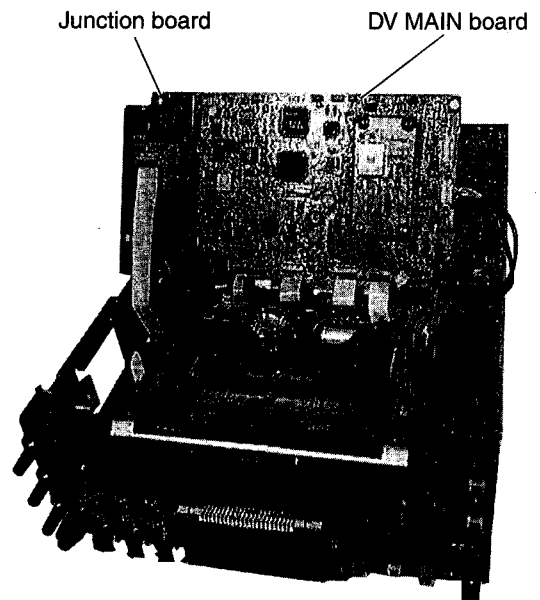

Fig. 1-3-2
- (1) Remove the 4 screws (S4) (black) from the DV MAIN board.
- (2) Remove the 2 screws (S2) from the Junction board.
- (3) Stand both the DV MAIN and Junction boards as shown in Fig. 1-3-2 and diagnose them.